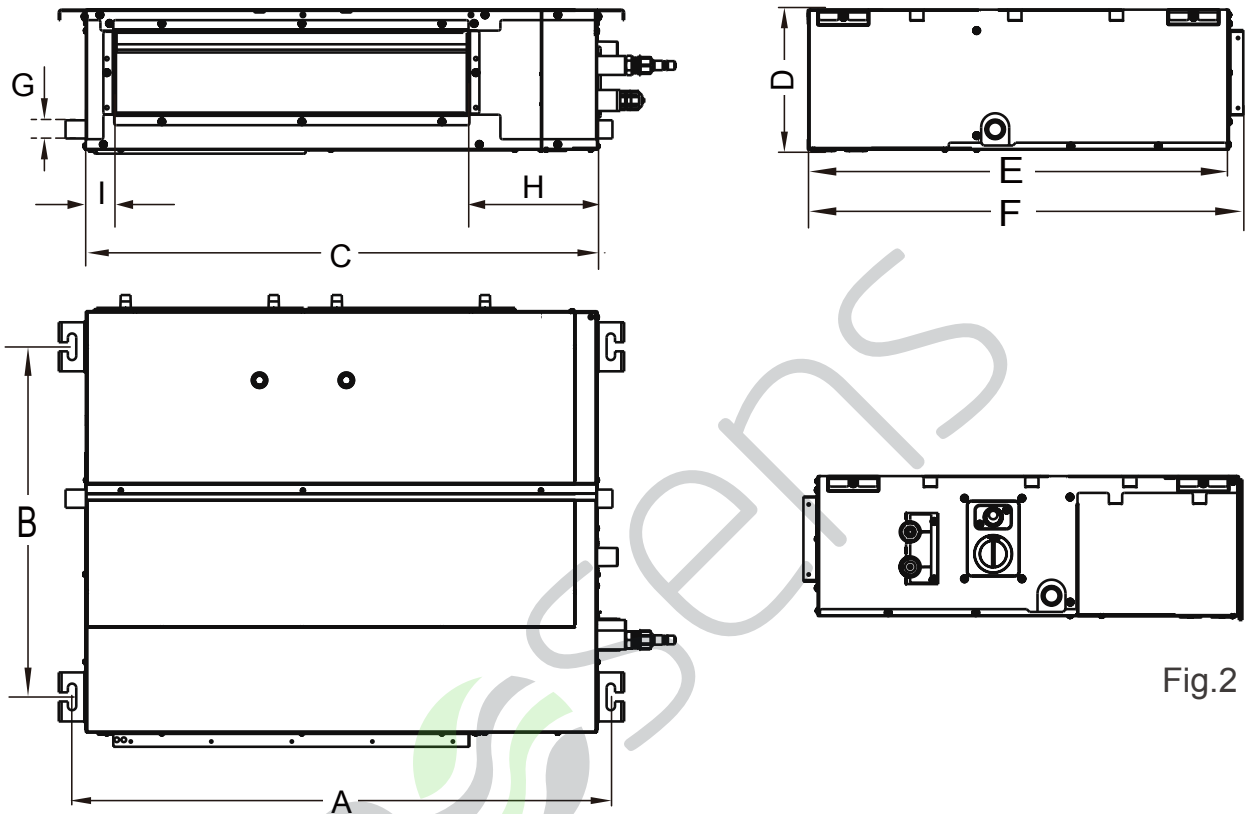

Fig.2
3. Leave service space around the unit as required in Fig.2.